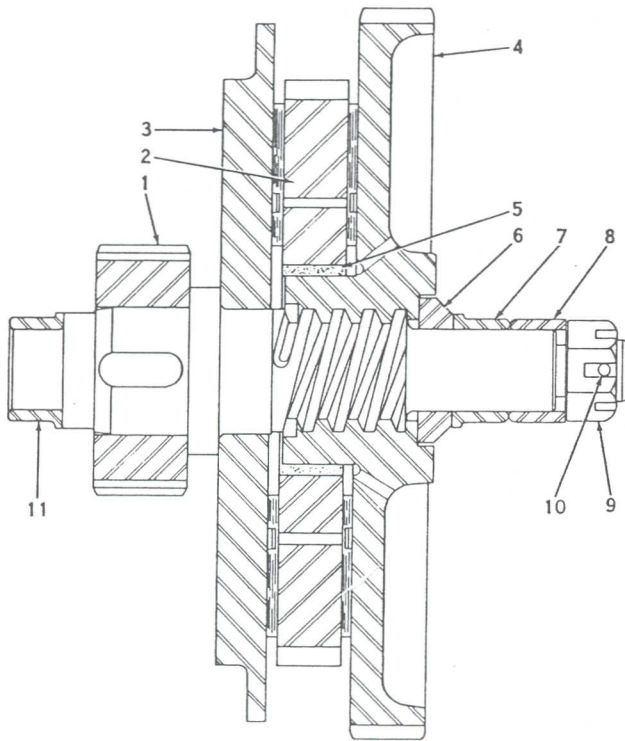

Figure 5-16. Load Brake Shaft Assembly
6. To reassemble the load brake shaft assembly, proceed as follows (see Figure 5-16):